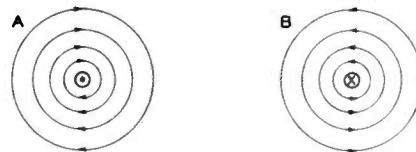

Fig. 5. Magnetic lines around conductors.
We have remarked before on the close relationship between electric current and magnetic fields. It should not be surprising, therefore, that an electric current is always accompanied by an electromagnetic field that is equivalent in its effects to a magnetic field. Electromagnetic fields around conductors are shown in Fig. 5; the conductors are viewed from the ends. In Fig. 5A the current direction is toward the viewer, shown by a dot representing an arrowhead, and in Fig. 5B the current is away from the viewer (into the page). This is indicated by a cross to represent the tail of an arrow. The field intensity is greatest nearest the wire in either case, but the direction of the lines of force depends on the current direction. Field direction for current-carrying conductors can be determined by the left-hand rule: if the thumb of the left hand is extended outward from the closed fist, and pointed in the direction of the current, the fingers curl in the direction of the field. If the conductor is long and relatively straight, the field intensity (H) in oersteds at any point r cm from the conductor is